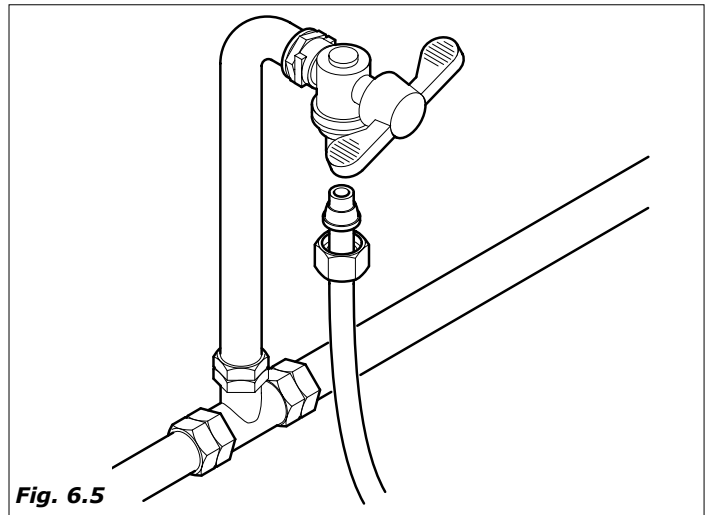

Fig. 6.5
- connect the cock to the distributor, using a pipe in nylon material suitable for food products and suitable for the mains pressure. In the event of the use of a flexible pipe it is necessary to fit the reinforcement bush supplied inside (Fig. 6.5).